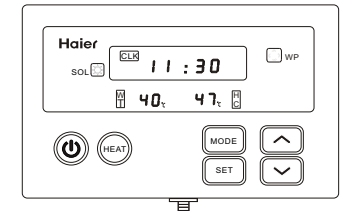

Fig.6 Solar heating interface
A.turning on/ turning off: the system is turned on directly and automatically enters the working mode and conditions before power supply is cut off. The first tacitly approved working mode of the system is the solar heating mode. The four-number tube of the indication screen displays the clock. The five-number tube under the screen respectively displays water temperature of water-storing tank and the temperature of water exiting. The indication interface is displayed in Fig. 6 and at this time, all the pressing keys are effective. Then press power supply key and the system will be turned off and enter the electricity saving mode. The indication interface is displayed in